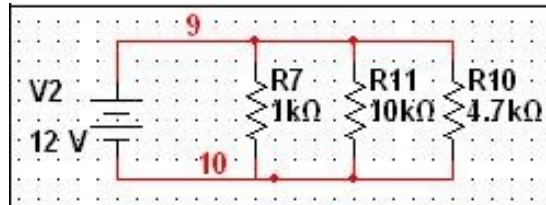

Figure 3.2: Question 2
- Resistors in parallel: Assemble the circuit in figure 3-2 with component values (as provided in lab). Take measurements to complete the entries corresponding to the experimental values in table 3-2.